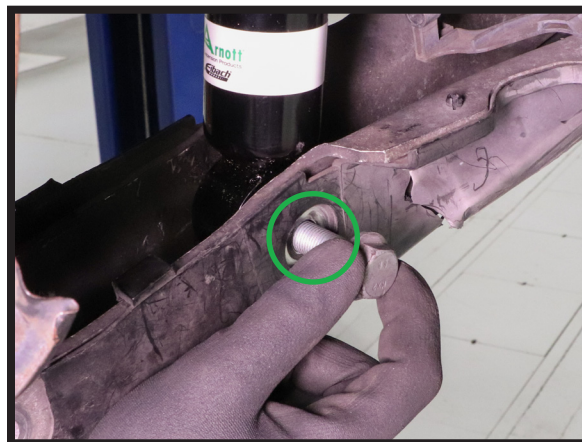

FIGURE 28
2. INSTALL THE LOWER SHOCK MOUNTING BOLT AND NUT AND TIGHTEN TO MANUFACTURER'S SPECIFICATIONS. (FIGURE 28)